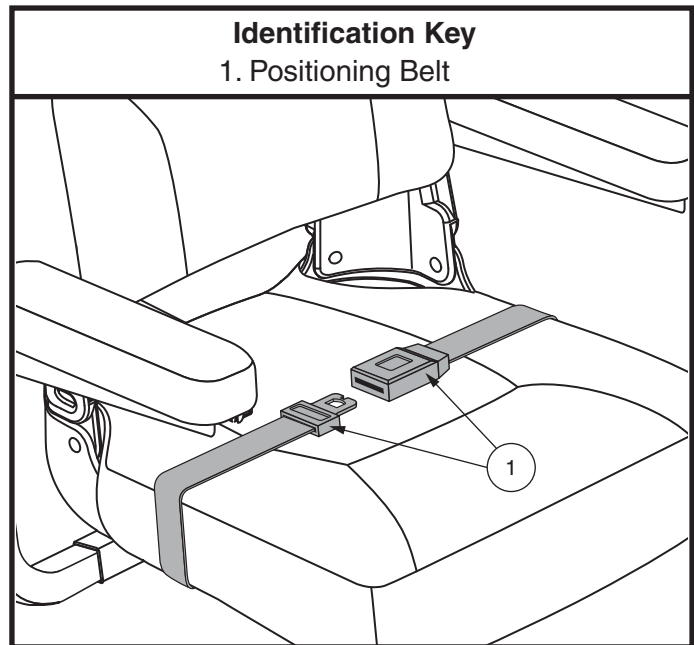

Figure 13. Positioning Belt Adjustment
See figure 13. The positioning belt is designed to support the operator so that he/she does not slide down or forward in the seat. The positioning belt is not designed for use as a restraining device.
1. Once seated, insert the metal tab on one side of the belt into the plastic housing on the opposite side until you hear a click. **See figure 13.**